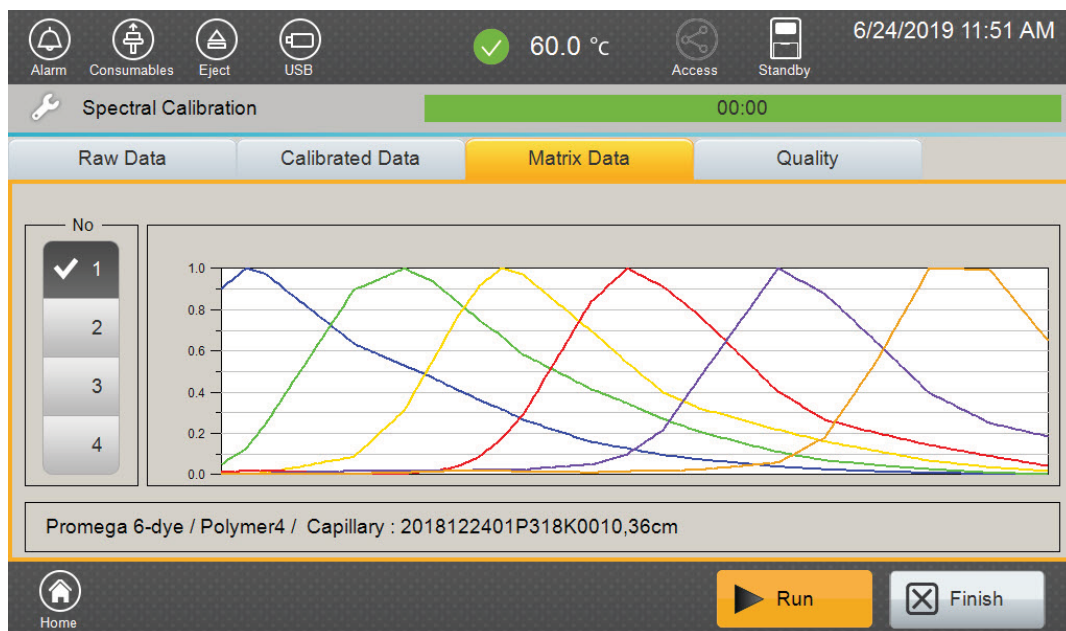

Figure 26. Spectral Calibration 'Matrix Data' tab.
- The 'Matrix Data' tab can be used to view emission spectra for each capillary (Figure 26).